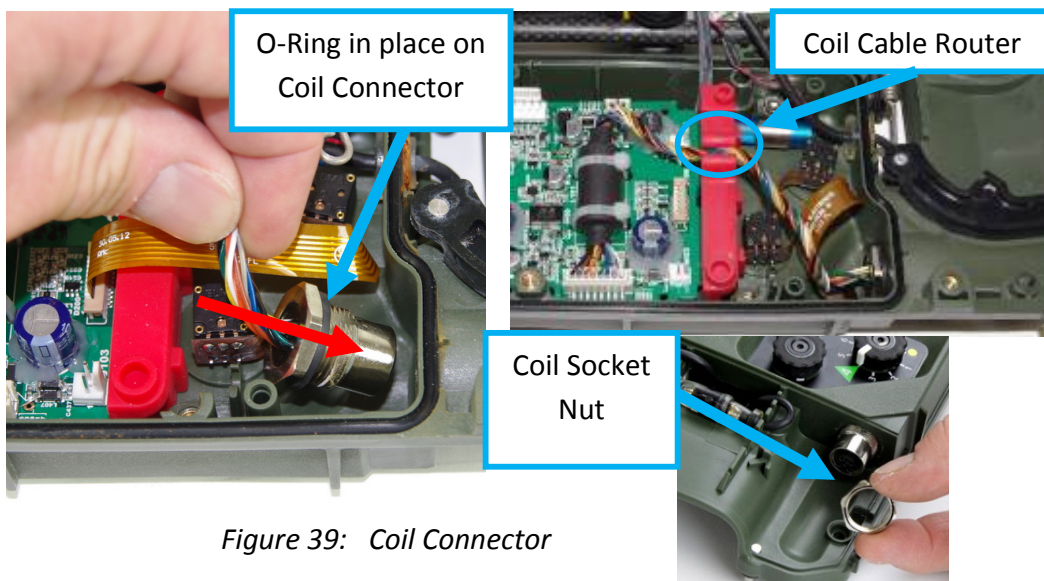

Figure 39: Coil Connector
- Position the coil connector ensuring the connector has a clean and correctly positioned O-ring as shown in Figure 39.